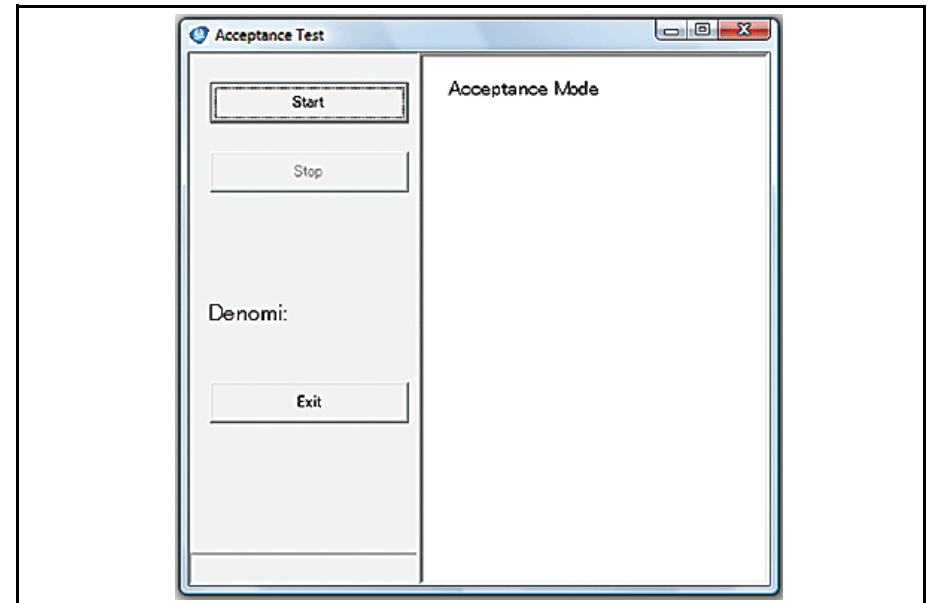

Figure 5 Typical Acceptance Test Screen
7. Run the Accept Mode Test (Bill Acceptance). The Screen shown in Figure 5 will appear.